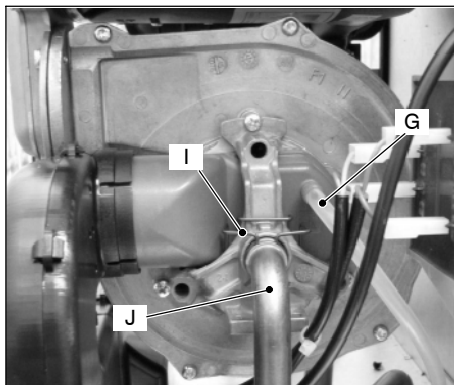

Fig. 9.6 (right side of the fan)
- 4 Disconnect the rubber pipe G (Fig. 9.6).
- 6 Remove the fixing fork I and remove the gas pipe J (Fig. 9.6).